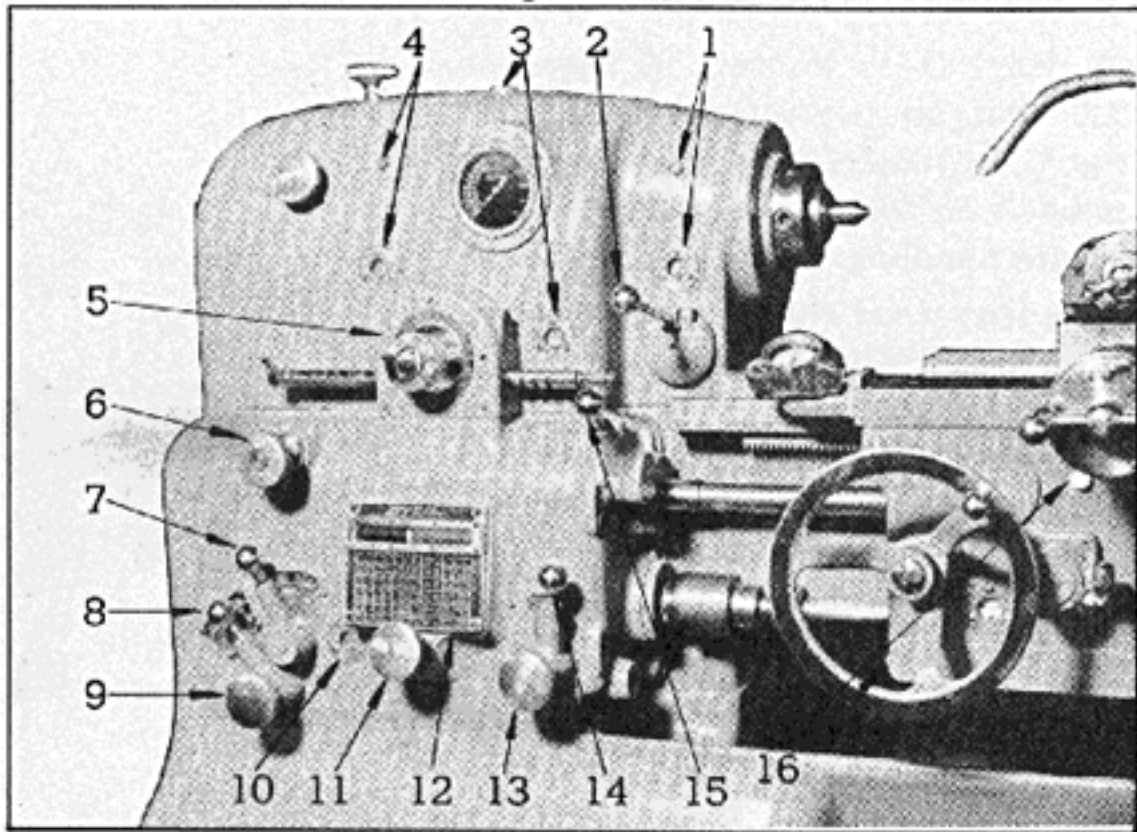

Figure 1
Our Monarch has a few more features that are not pictured in these illustrations. On the far right top of the machine there is a knob with three selections : Right Hand, Left Hand and Neutral. This dial affects the direction the spindle turns. If it is in Neutral the spindle is not engaged and will not turn at all. If it is in Left Hand, the spindle is set up for left handed threading and the spindle spins counter-clockwise. If the knob is set to Right Hand, the spindle spins clockwise. If the knob is set to Left Hand, the speed is changed with the dial mentioned above (number **9** in Figure 1). If the knob is set on Right Hand, the speed is adjusted by a black knob next to the lighted green reset button labeled "reverse."
- To change from direct drive to back gear do the following. Move lever 8 (Figure 1) from direct to back gear. Make sure the speed of the spindle is turned down, or you will blow the relay. If you do blow a relay, you must wait until it cools down before the spindle will turn on again.